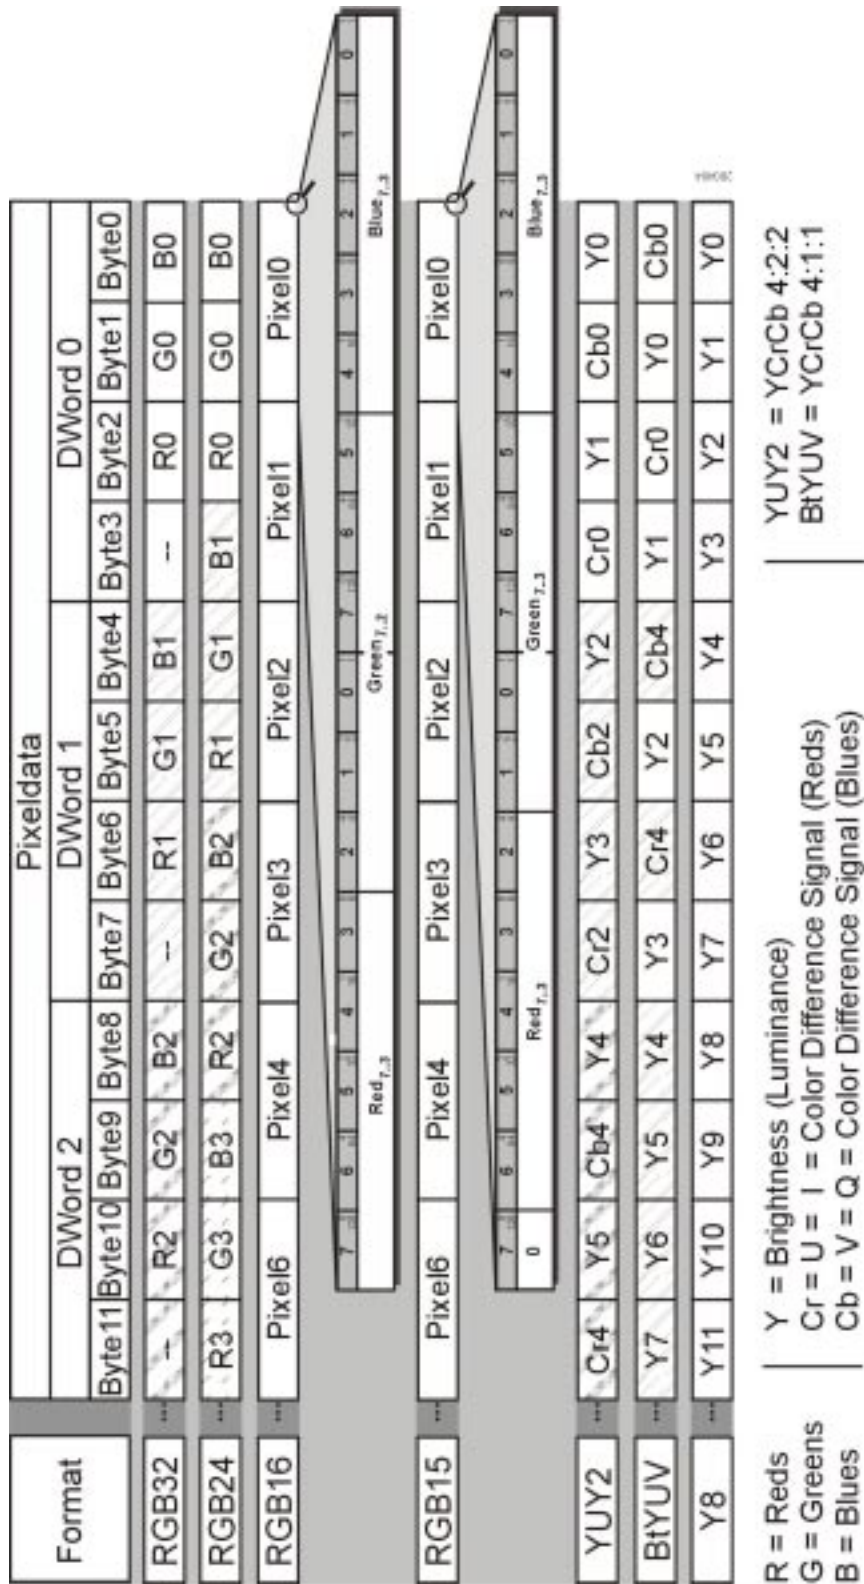

Figure 52: Color Format of the eGrabber-4plus
The format is determined by the application. In general three formats can be distinguished, which again can be separated in different formats. *Figure 52* shows how pixels can be stored in the memory for different formats.
- For *RGB32* 32-bit, a double word per pixel is utilized. The lowest Byte of each double word contains the information for the blue color (8-bit), the second Byte the green and the third Byte the red color information. The highest Byte contains no information and is used only to obtain a whole double word for one pixel: After each double word a new pixel begins (*see Figure 52 that related information have same hatching*). The alignment of double words might have the advantage, that fast access commands could be used. The number of colors is 16 million ($2^{38} = 16.777 \cdot 10^6$).
- *RGB16* has a reduced resolution of the color. This format requires five bit for the blue and red channel, and the green channel has 6-bits. The color depth is 65.536 ($2^5 \cdot 2^5 \cdot 2^6 = 65536$). One pixel needs 16-bits = 1 word. In *Figure 52* the partitioning into three color channels of the word is depicted. The color information is arranged „left justified“; the lower bits are omitted, so that the color depth is reduced.
- **RGB15:** The division corresponds to the RGB16-system, except that all color channels have the same color depth (each 5-bit=32 levels). Therefore we yield 32.818 colors. Altogether only 15-bits are necessary, so that the upper bit of a word is a stuffing bit and has the value 0 (see *Figure 52*).
- **BtYUV :** corresponds to YCrCb 4:1:1. Four pixels share one color information. The arrangement of the information in the memory is shown in *Figure 52*. Three double words are logically combined to one unit and contain the information for eight pixels. This is the value for the brightness for each pixel (Y0..Y7) and the color information of the first (Cb0/Cr0) and fifth pixel (Cb4/Cr4).